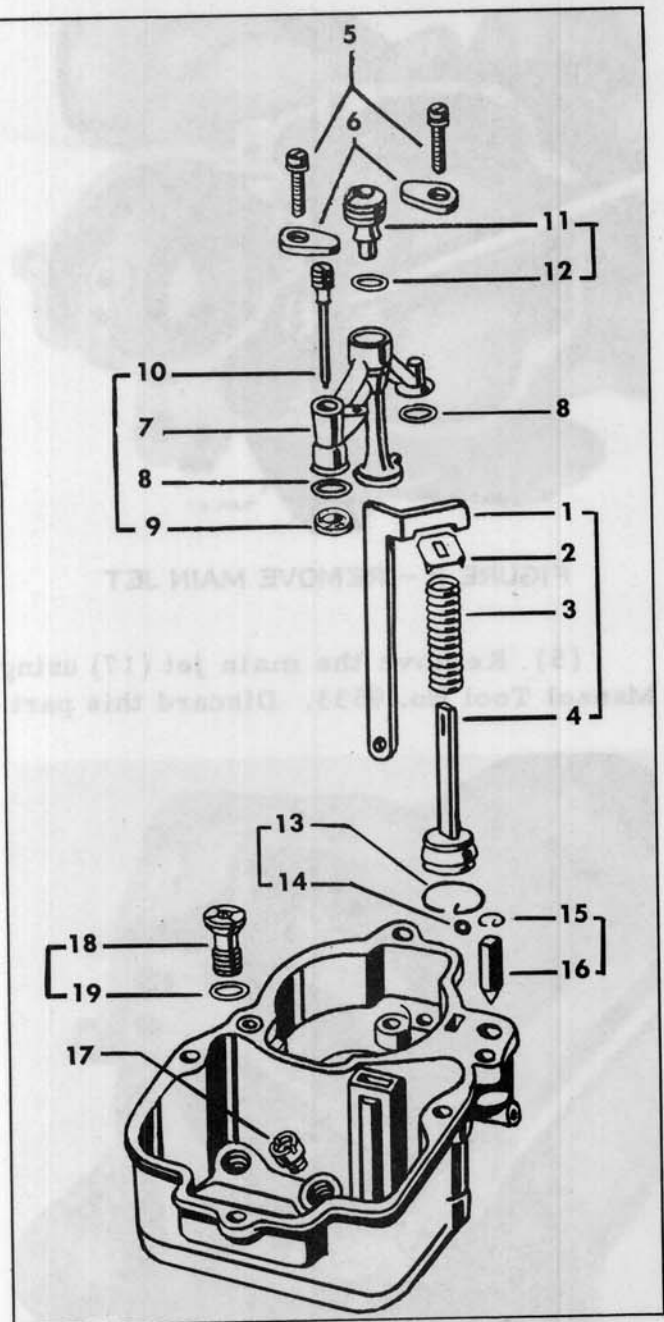

FIGURE 8 - DISASSEMBLY - MAIN BODY
d. Disassembly - Main Body Assembly - Figure 8